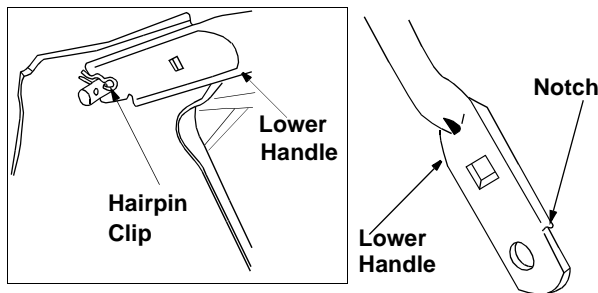

Figure 18
- Remove the hairpin clip from the weld pin on the handle bracket on each side of the lower handle. See Figure 18 inset. Press out on the legs of the lower handle. Remove lower handle from the mower.
- Turn the lower handle around so the notch on the bottom of the lower handle is facing forward as shown in Figure 18. Reassemble, placing the bottom hole on the handle over the weld pin in the handle mounting bracket.
- Place the hairpin clips in the inner holes in the weld pins and attach the starter rope as instructed in the Assembly section. See Figure 18 inset.